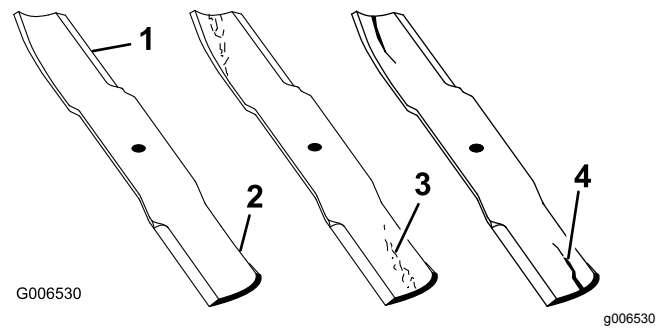

Figure 86
1. Inspect the cutting edges (Figure 86).
4. If you notice any cracks, wear, or a slot forming in this area, immediately install a new blade (Figure 86).